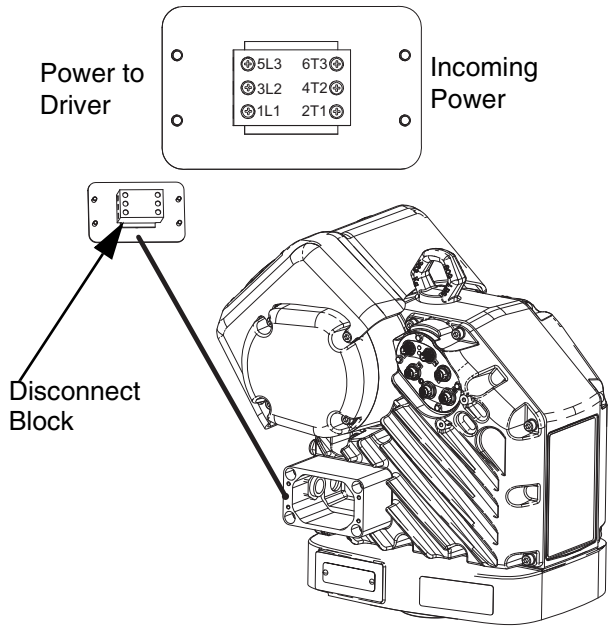

FIG. 5: Terminal Connections
NOTE: Inside the junction box, power wires to the driver are connected to terminals 3L2 and 5L3 on the disconnect block. Refer to **Figure 5** for the terminal locations.
4. Refer to **Figure 5** and connect the wires from the power cord into terminals 4T2 and 6T3. Each wire can be connected to either terminal.